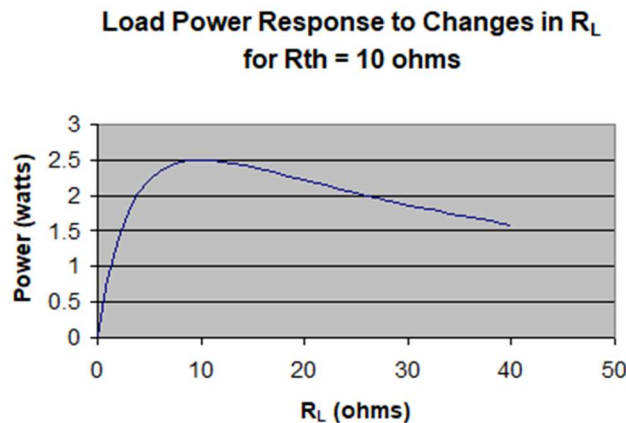
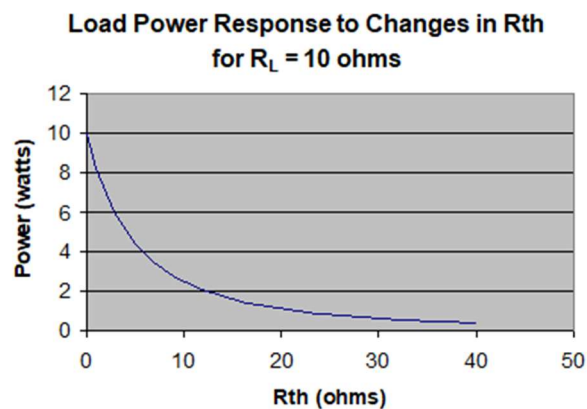

Figure 2 – Load Power Response of a Load Resistor in a Thevenin Circuit.
Figure 3 – Load Power Response of R_{th} in a Thevenin Circuit.
Maximum power is transferred to a load resistor (R_L) when the value of the load resistor is selected to match the value of the Thevenin resistance (R_{th}) of the power source. Figure 2 demonstrates this for a value of R_{th} of 10 Ω .
Suppose you were designing a circuit to deliver power to a 10 Ω load resistor. What would be the value of the Thevenin equivalent resistance, sometimes called the “output” or “source” resistance, that would deliver the most power to the load? Figure 3 indicates that the lower the value of R_{th} the better.
- I. With reference to the same function generator set-up used in Part 2, obtain 3 different resistor values that each demonstrate a different aspect of the graph in figure 3. Hint – Reference the curve in figure 2 to understand the properties you are trying to emulate with your resistor values. Note that you already measured V_{th} with a $R_L = 100 \Omega$ and above; so just enter your previous Output Voltage value from part 2 in the table for all values of V_{th} . Calculate the power delivered to the load for each of the test conditions (R_L) and enter them into Table 1. **(15 Points)**